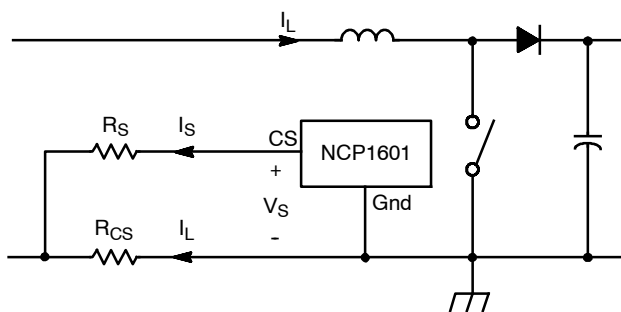

Figure 32. Current Sensing
The device senses the inductor current I_L by the current sense scheme in Figure 32. This scheme has the advantages of: (1) the inrush current limitation by the resistor R_{CS} , and (2) the overcurrent protection and zero current detection implemented in the same pin.
Inductor current I_L passes through R_{CS} and creates a negative voltage. This voltage is measured by a current I_S flowing out of the CS pin (Pin 4). The CS pin has an offset voltage V_S . This offset voltage is studied in the setting of zero inductor current $I_{L(ZCD)}$ and the maximum inductor current $I_{L(OCP)}$ (i.e., overcurrent protection threshold). A typical variation of offset voltage V_S versus sense current I_S is shown in Figure 15. Higher the value of the offset voltage at low current region creates lower the zero current threshold for better accuracy. Based on Figure 32, (eq.13) is derived.